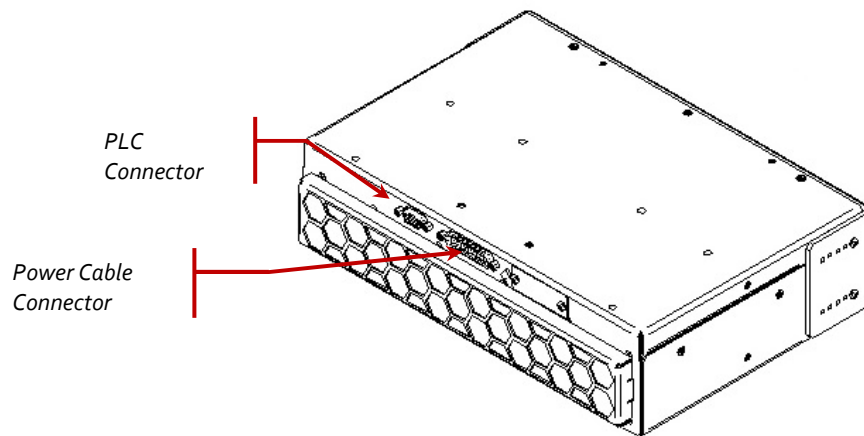

Figure 1 UV LED Head Connection Ports
3. Attach the male end of the power cable to the power supply unit, and connect the female end of the power cable to the UV LED Head per Figure 1 – AC9300 shown.